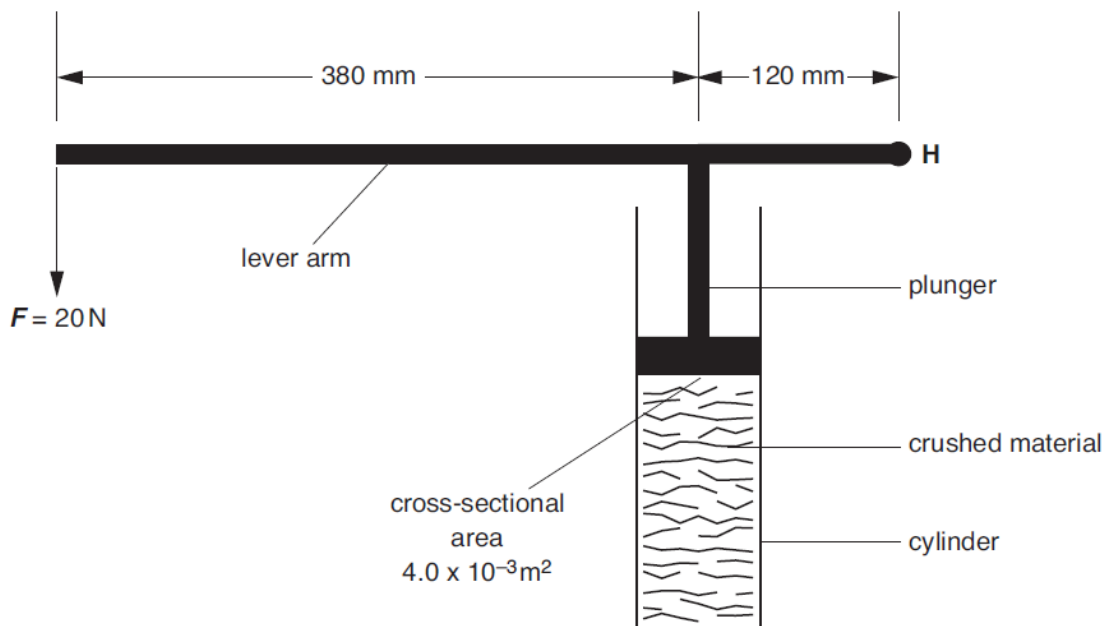

Fig. 3.1
- (b) Fig. 3.1 shows a device used for compressing materials.
- (i) Two forces acting on the lever arm are its weight and the force F . On Fig. 3.1, draw and label **two** other forces acting on the lever arm. [2]